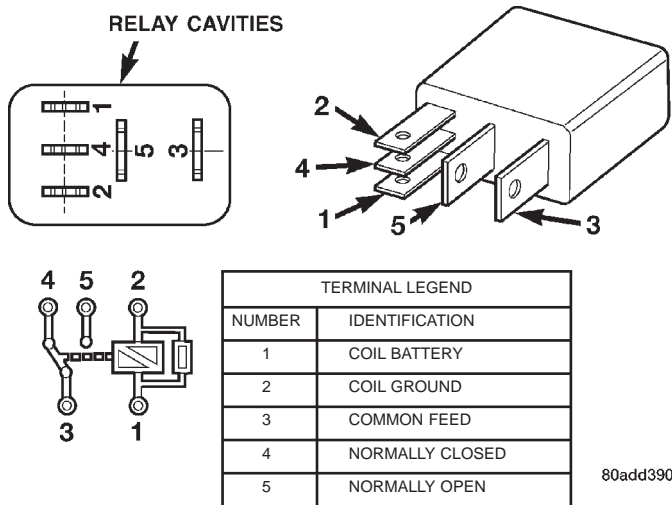

Fig. 12 Type-3 Relay
(16) If equipped with **type-3 relay** (Fig. 12), attach test leads from LCS adapter into PDC relay cavities number 3 and 5. For location of these cavities, refer to numbers stamped to bottom of relay (Fig. 12).